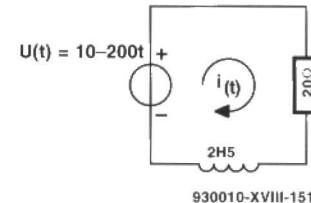

Fig. 151
4. In the circuit of Fig. 151, the input voltage is 10 V at $t = 0$, and ramps down according to the equation $u = 10 - 200t$.